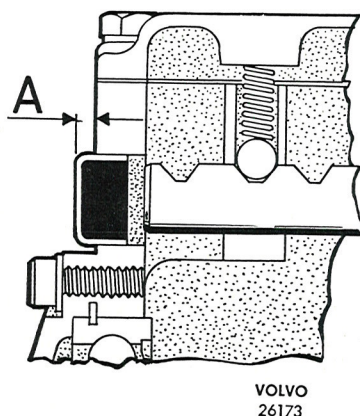

Fig. 4-41. Fitting end cap over selector rail
- N. B. If the end caps at the front end of the housing have been removed, these should be fitted in the same way as previously, i.e. the centre end cap should project about 4 mm (0.16") outside the face of the housing, see Fig. 4-41.